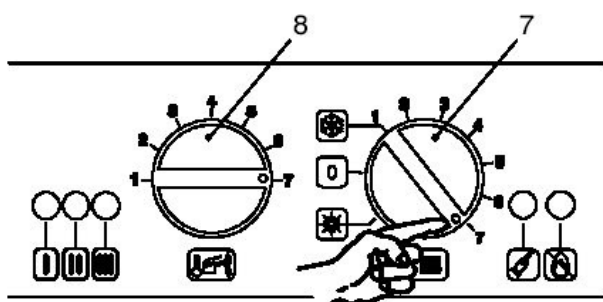

Fig. 6.47
5. Set the d.h.w. and C.h. temperature control knobs (1.2 - 1.2 in Fig. 6.47) to their maximum position.